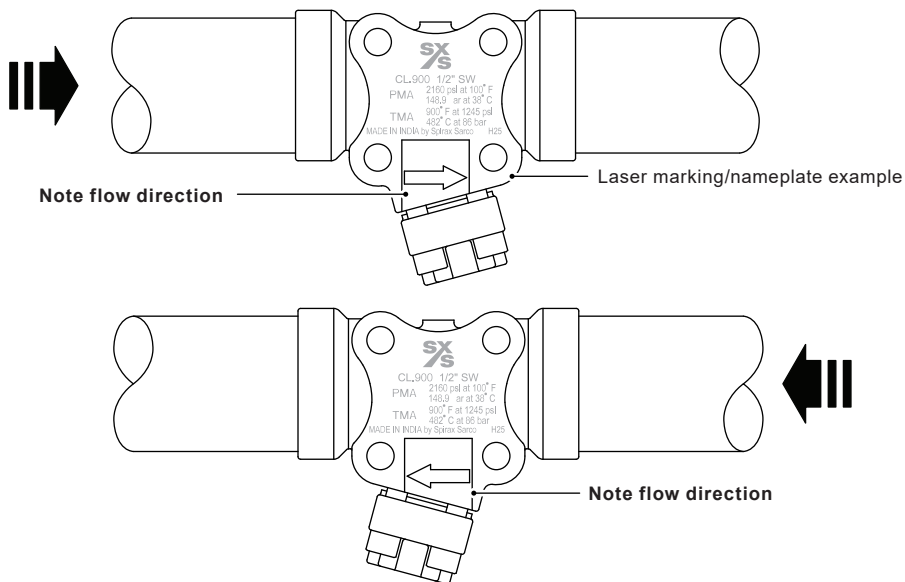

Fig. 5 Flow direction
- 3.1.4** The PC90 shall be installed with flow in the direction of the arrow. Flow can be horizontal (either direction) or vertical with flow downwards, see Figures 5 and 6.